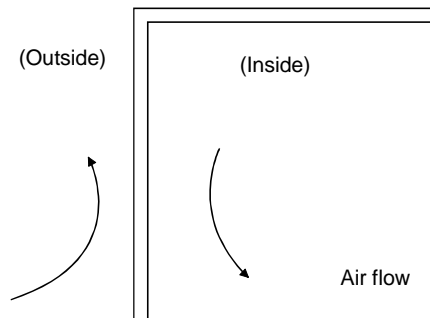

Fig. 12.4 Temperature distribution in enclosure
Fig. 12.4 shows the pattern in which the servo motor comes to a stop when the dynamic brake is operated. Use Equation 12.2 to calculate an approximate coasting distance to a stop. The dynamic brake time constant τ varies with the servo motor and machine operation speeds. (Refer to Fig. 12.5)
- t_e : Delay time of control section (Fig. 12.4)..... [s]